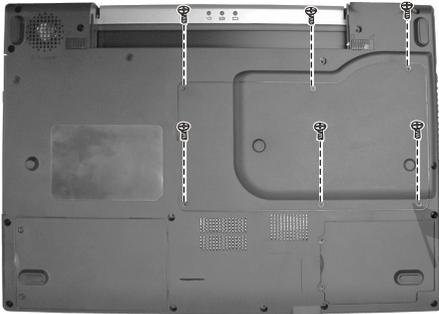

Figure 2-4 Remove six screws
2. Remove six screws fastening the heatsink cover. (Figure 2-4)